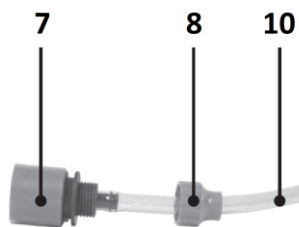
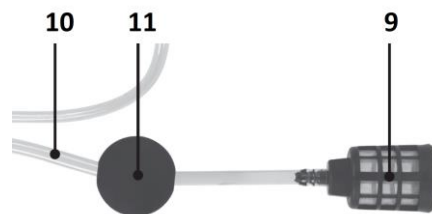

Fig. 3A
Fig. 3B
- Remove the hose connector ring (8) from the hose connector (7).
- Place the ring (8) over the one end of the hose (10).
- Push the same end of the hose into the hose connector, see Fig. 3A.
- Place the other end of the hose (10) through the hole in the floating ball (11).
- Push the same end of the hose on to the suction filter (9), see Fig. 3B.